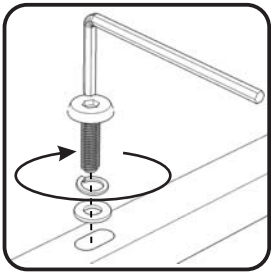

Figure 3
Attach Side Panels (C) and (D) to unit with Head Cap Bolts, Spring Washers and Flat Washers, tightening bolts only halfway. (See Figure 3)